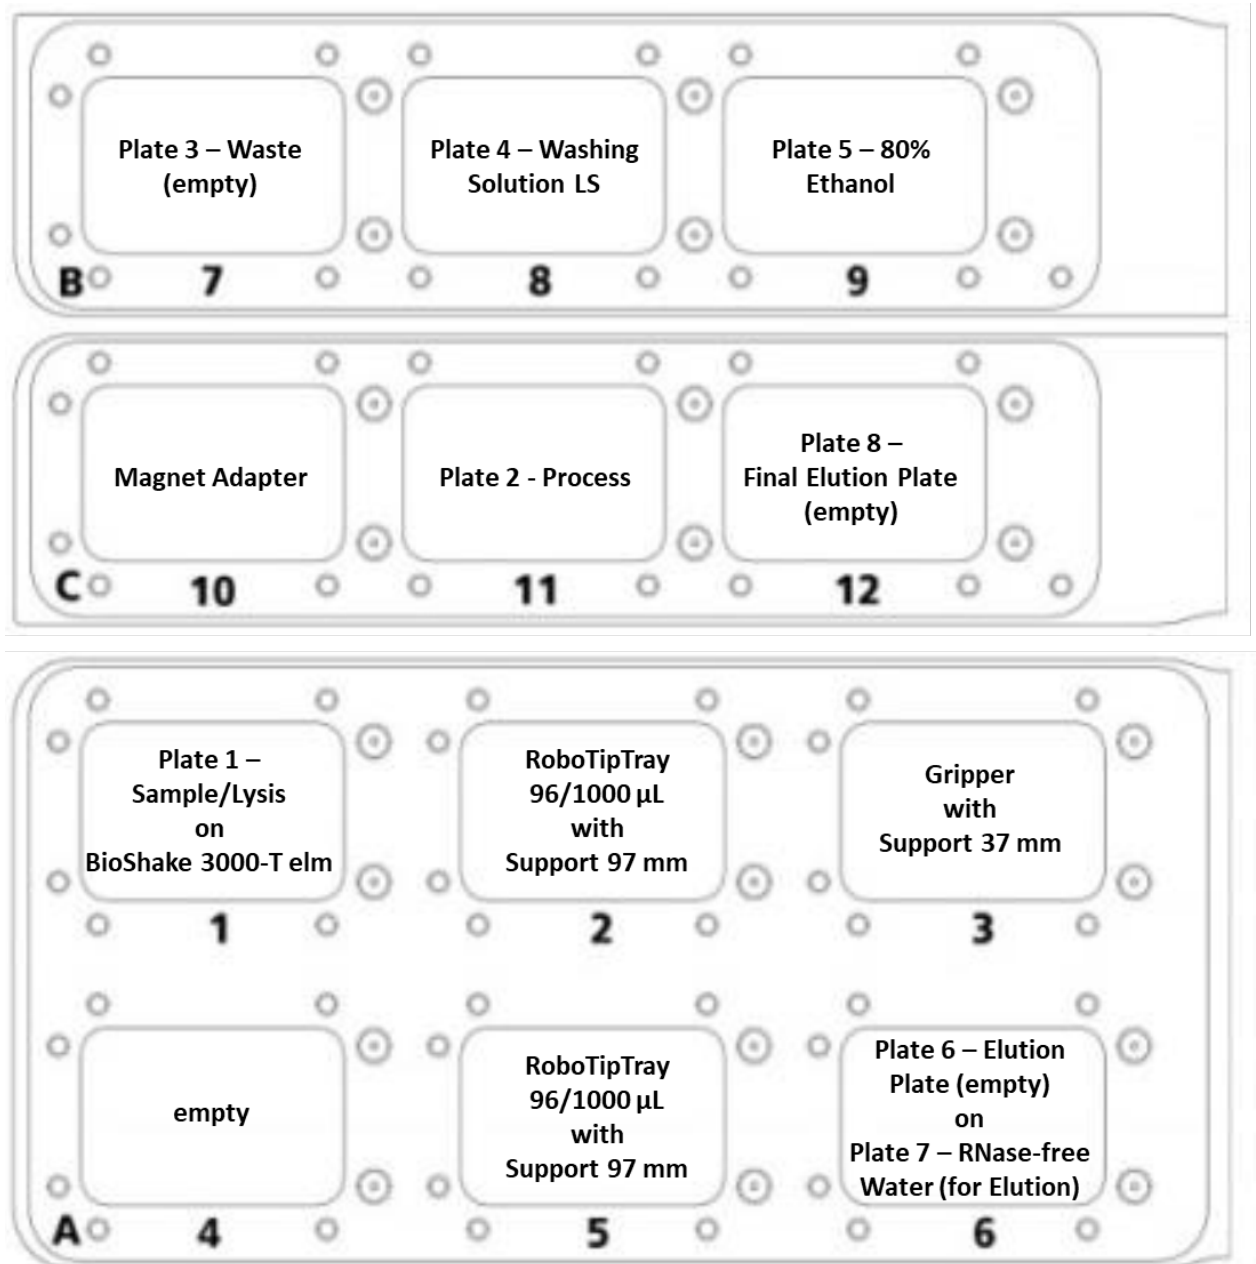

Figure 11: Deck layout for extraction.
3. Select "Magnetic Beads" (→ see Figure 11).